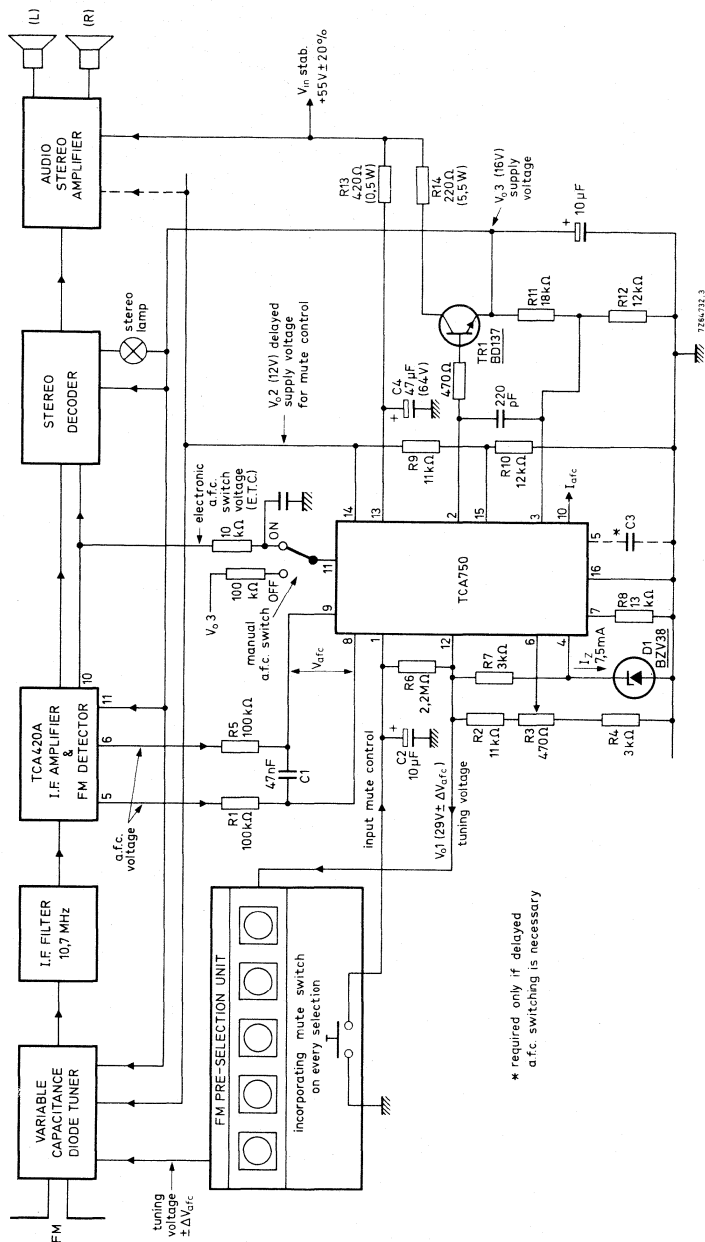

Fig. 8 Hi-fi radio receiver with electronic tuning using TCA750.
4. If a higher level is required from the output of stabilizer 1, the reference diode supply may be obtained from the emitter of a power transistor connected to the output from stabilizer 3 (see Fig. 8). In this case, the current available from stabilizer 1 is increased to 12,5 mA (bleeder current $I_{RA1} = 2$ mA).